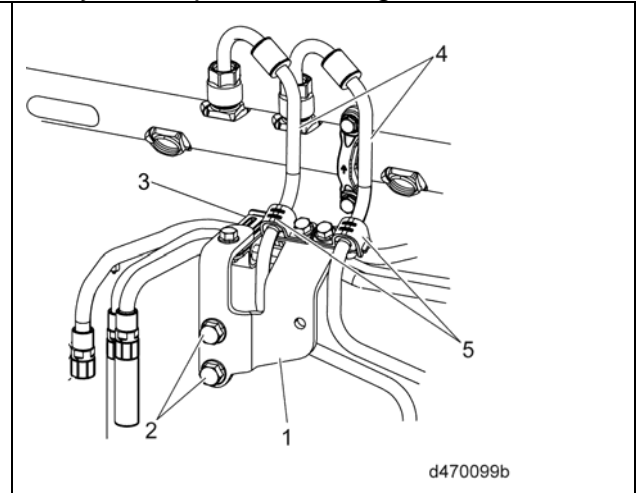

Figure 7 – Three-Filter Fuel System with Permanent Vibration Dampers
- For engines with **three-filter fuel system** and **permanent vibration dampers**, inspect and verify the mounting bracket (1) and its attaching bolts (2), the two P-clips (5), the high pressure fuel feed lines (4), the two vibration dampers (4) are not missing or loose. Do not attempt to loosen, tighten or otherwise disturb any of the parts. See Figure 7.